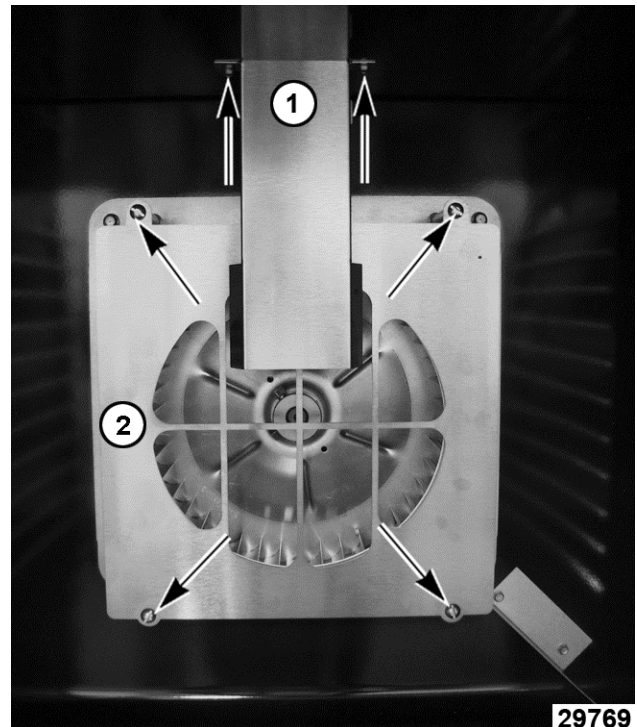

Fig. 21
3. Remove snorkel (1, Fig. 21) and baffle panel (2, Fig. 21) mounting screws.
3. Install snorkel (1, Fig. 21) and baffle panel (2, Fig. 21).